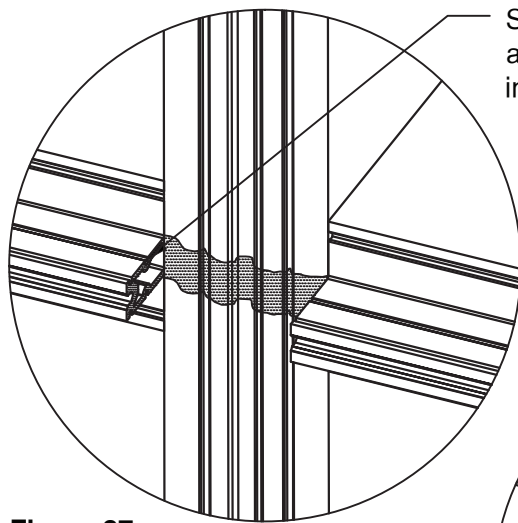

Figure 37
- D.6 Install WW-300 horizontal bridge at vertical intersection where original bridge was removed. Seal bridge as shown in **Figures 37 & 38**.